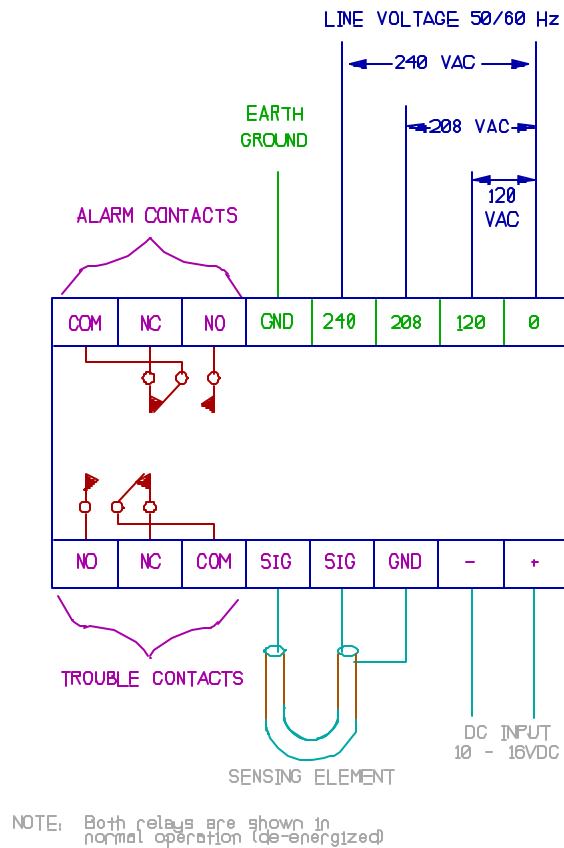

Figure 15. Terminal Block Connections for P/N 35003-38, AC/DC.
- (2) Connect input voltage, earth ground, and CFD signal to the control unit terminal blocks. See Figure 15.
- (3) Ground the outer sheath of the connector plug assembly or cable assembly to the CFD sensing element ground terminal, GRD. In applications where continuous elements are interconnected with sections of copper wire, grounding of sensing element sheaths must be insured.
- (4) Power the alarm and trouble relay contacts externally to provide load voltage and wire the load circuit to perform the required function. Connect to control unit terminal blocks as shown in Figure 15.